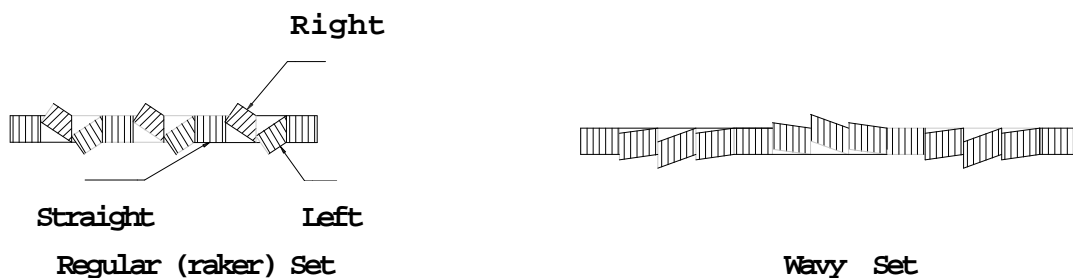

Fig. 7.2 The Saw Set
- Wavy set has groups of teeth set alternately to right and left, forming a wave-like pattern. This reduces the stress on each individual tooth, making it suitable for cutting thin material or a variety of materials where blade changing is impractical. Wavy set is often used where tooth breakage is a problem. This is shown in Fig. 7.2 as follows: